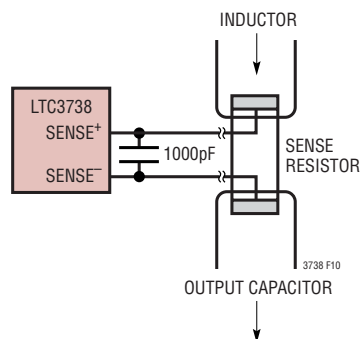

Figure 10. Kelvin Sensing  $R_{SENSE}$
3) Are the  $SENSE^-$  and  $SENSE^+$  printed circuit traces for each channel routed together with minimum PC trace spacing? The filter capacitors between  $SENSE^+$  and  $SENSE^-$  for each channel should be as close as possible to the pins of the IC. Connect the  $SENSE^-$  and  $SENSE^+$  pins to the pads of the sense resistor as illustrated in Figure 10.